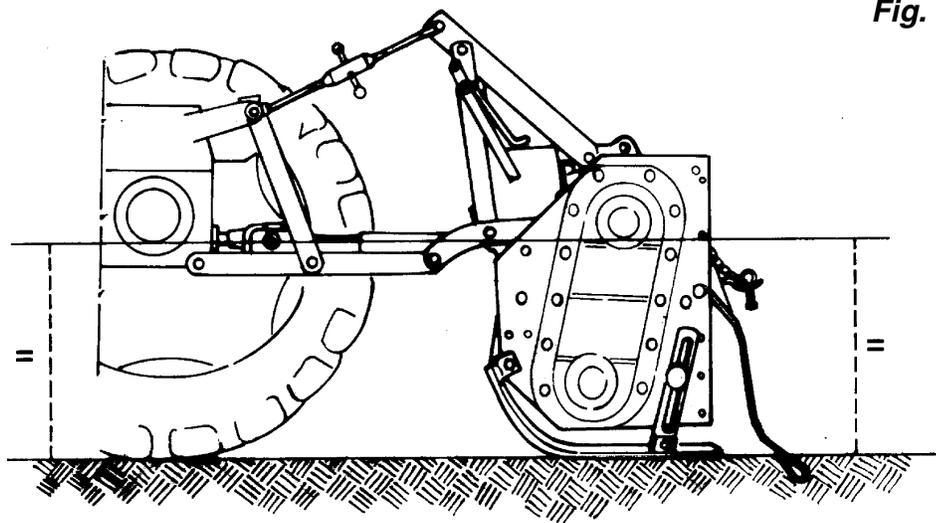

Fig. 14
2. The tiller hitch arms are adjustable in and out and may be positioned turned up or down, depending on driveline length and tractor size (**see fig. 14**).
4. Attach the top link. Adjust it so the tiller is as near parallel to the ground as possible. A 1 to 2 degree rearward tilt is acceptable (**see fig. 14**).